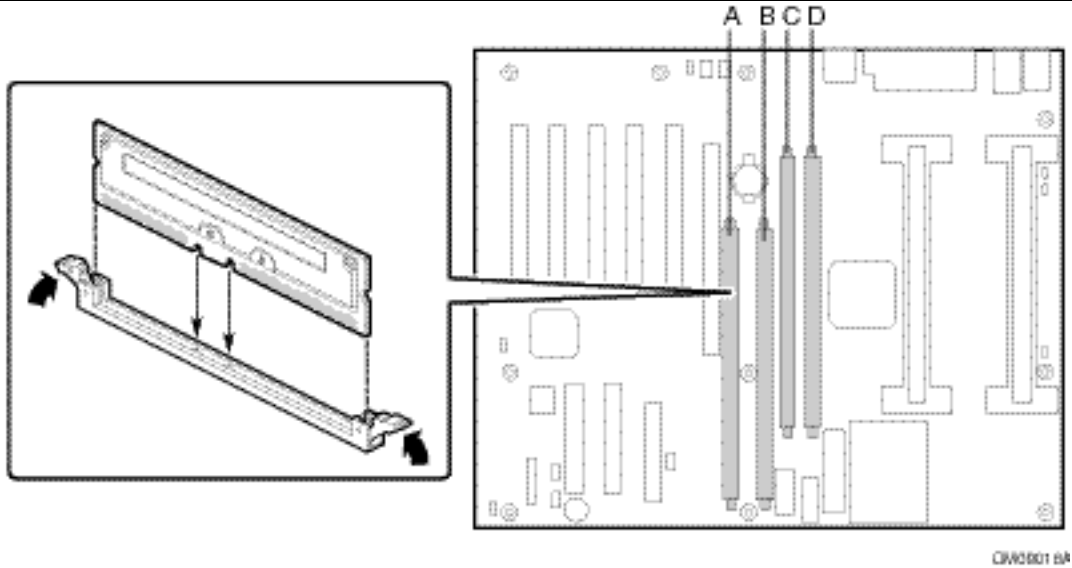

Figure 5. Installing RIMMs
Figure 5 illustrates the correct method for installing RIMMs\*. The Workstation Board has two- (2) RDRAM\* channels, in which a total of four- (4) RIMMs may be installed.